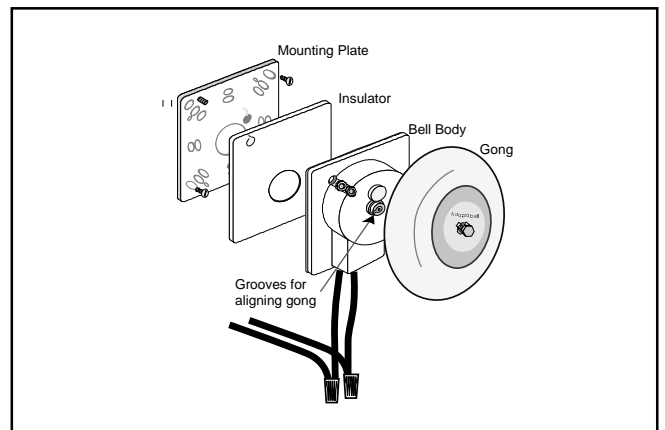

Figure 4. Installing the Adaptabel, Surface Mount
#### Surface Mounting (Figure 4)
4. See Figure 4. Using wire nuts (not supplied), connect wires to circuit. Push connected wires into bell through entrance hole in bell body base, while mounting insulator and bell body onto studs of metal mounting plate. Secure the bell body onto the metal mounting plate using two lockwashers and two nuts (supplied).